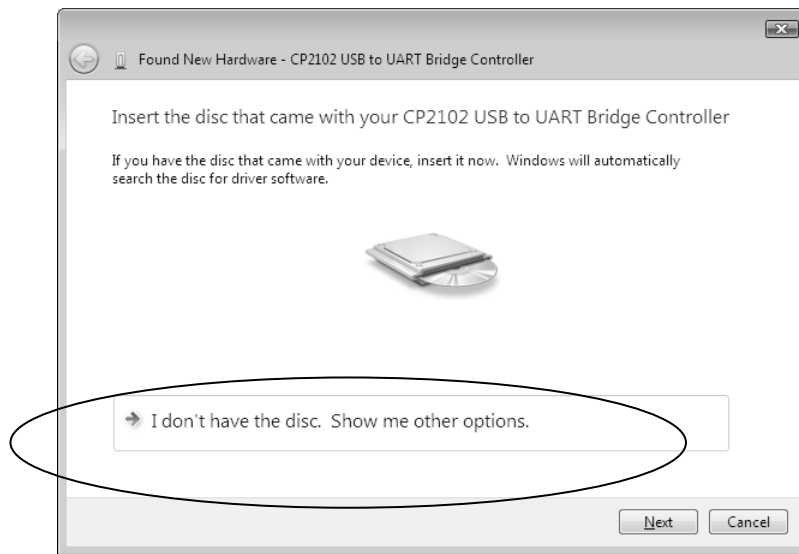

Fig. 45 New Hardware search wizard
(8) The screen shown in Fig.45 appears. Select **"I don't have the disc. Show me other options."**.